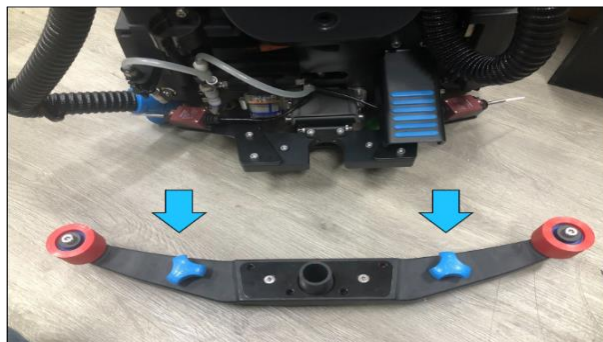

FIGURE 11-9
3. Place assembly on a flat surface (Fig. 11-9).